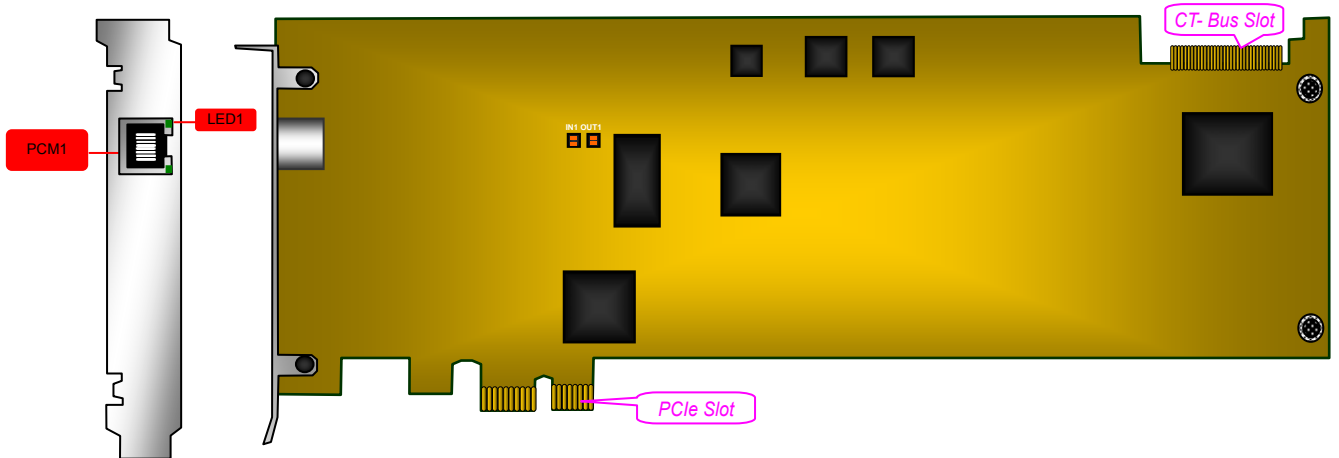
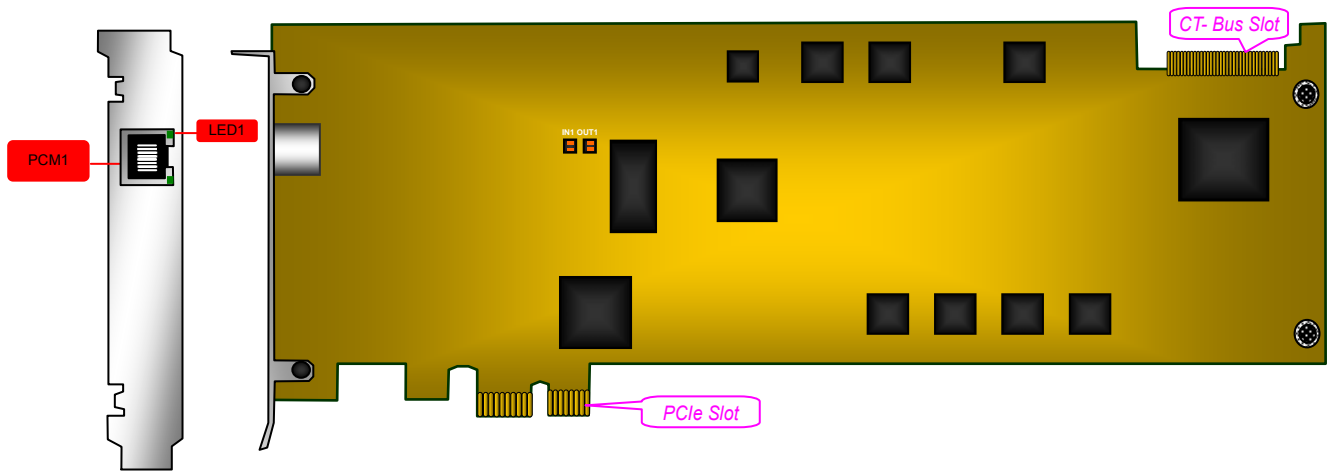

Figure 2-1 Left and Front Views
Figure 2-3 Left and Front Views
1. In Figure 2-1 and Figure 2-3, PCM1 indicates a trunk interface while LED1 represents its synchronization indicator;